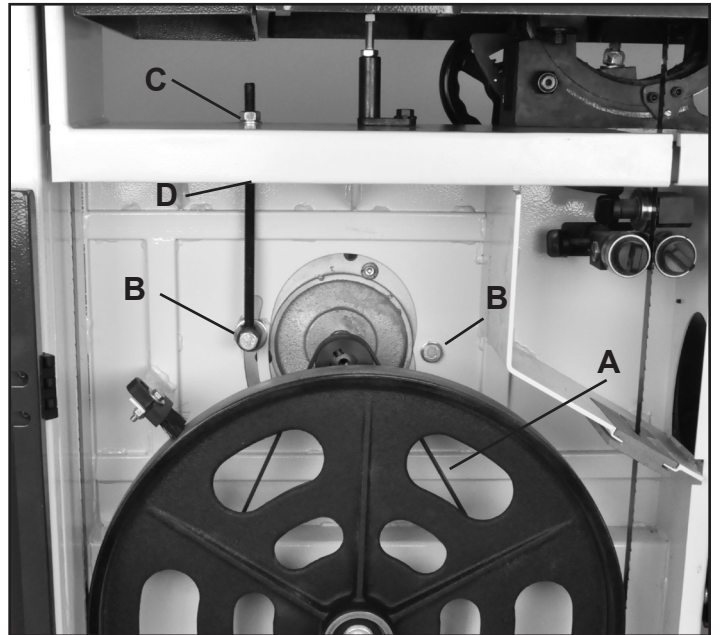
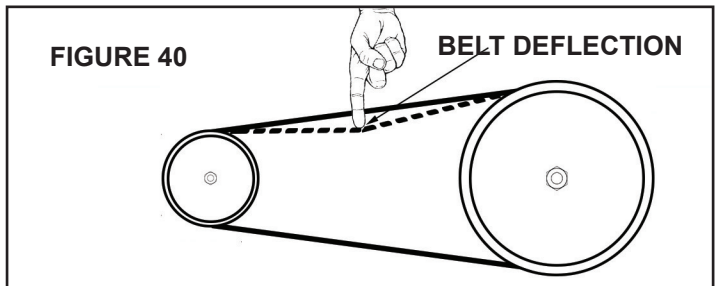

FIGURE 39
FIGURE 40
Check the Drive Belt (#10F, FIG. 39, A) tension with thumb pressure. The drive belt should not give more than 3/8" TO 1/2" in the center. DO NOT over tension the belt as this can put excessive, damaging pressure on the belt, pulleys and motor. Fig. 40.
1. Loosen the two Hex Bolts (#25A, 27A, Fig. 39, B) that secure the motor to the frame.
2. Loosen the Hex Nut on the top of the Motor Pulling Rod (#26A, Fig. 39, C). The motor should now be loose to move downward for adjusting the belt.
4. For *more tension* on the drive belt, lift the motor upwards. NOTE: There is a second hex nut on the motor pulling rod that is located *under* the frame. This second hex nut (Fig. 39, D) must be loosened to allow the motor to be lifted upwards.